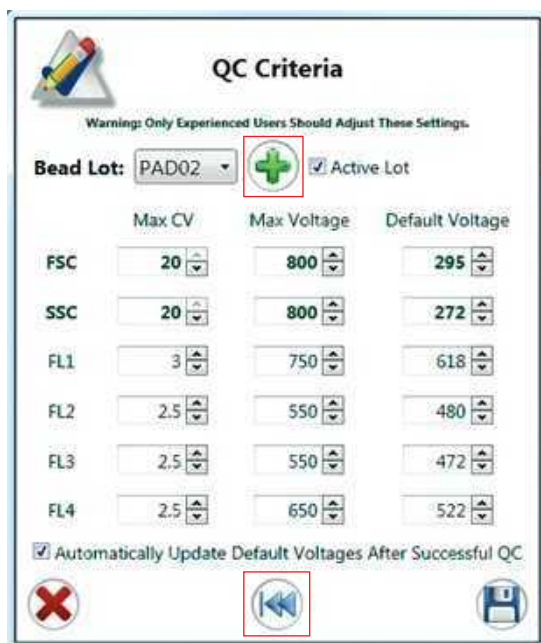

Fig. 18. Edit QC Criteria window with green plus button and rewind arrow highlighted.
An administrator can edit the QC criteria used to pass or fail the instrument during the daily QC. This should be performed only by an experienced user who has verified system performance. The rewind arrow on the middle bottom of Edit QC Criteria window will reset the QC criteria to the factory defaults for the system (Figure 18).
2. Click the green plus button (Figure 18).